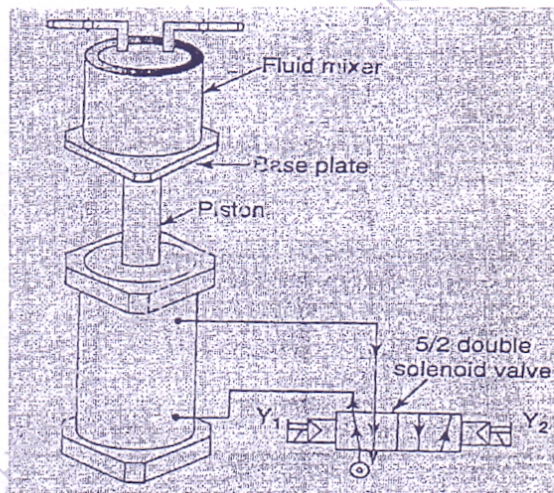

Figure 1
Q.6 (a) Explain impedance matching for a part of electromechanical system that consists of transmission of power using motor-gear drive system. (8)
- (b) A fluid mixer is used to mix two fluids with a vibrating machine, as per the machine sketch shown in Figure 1. The vibration machine is operated by a double acting pneumatic cylinder. The double acting cylinder is extended initially and when a pushbutton is pressed, the mixer mounted on a vibrating table moves down completely by retracting the cylinder and then executes an up and down motion between the retracted position and the center position of the cylinder. The vibrating time is adjusted for 10s; after that the cylinder is switched OFF automatically. Three electrical limit switches, one at the center of cylinder position and other two at end positions, are used to control the strokes. Draw PLC ladder diagram to achieve the above sequence of operation. (12)